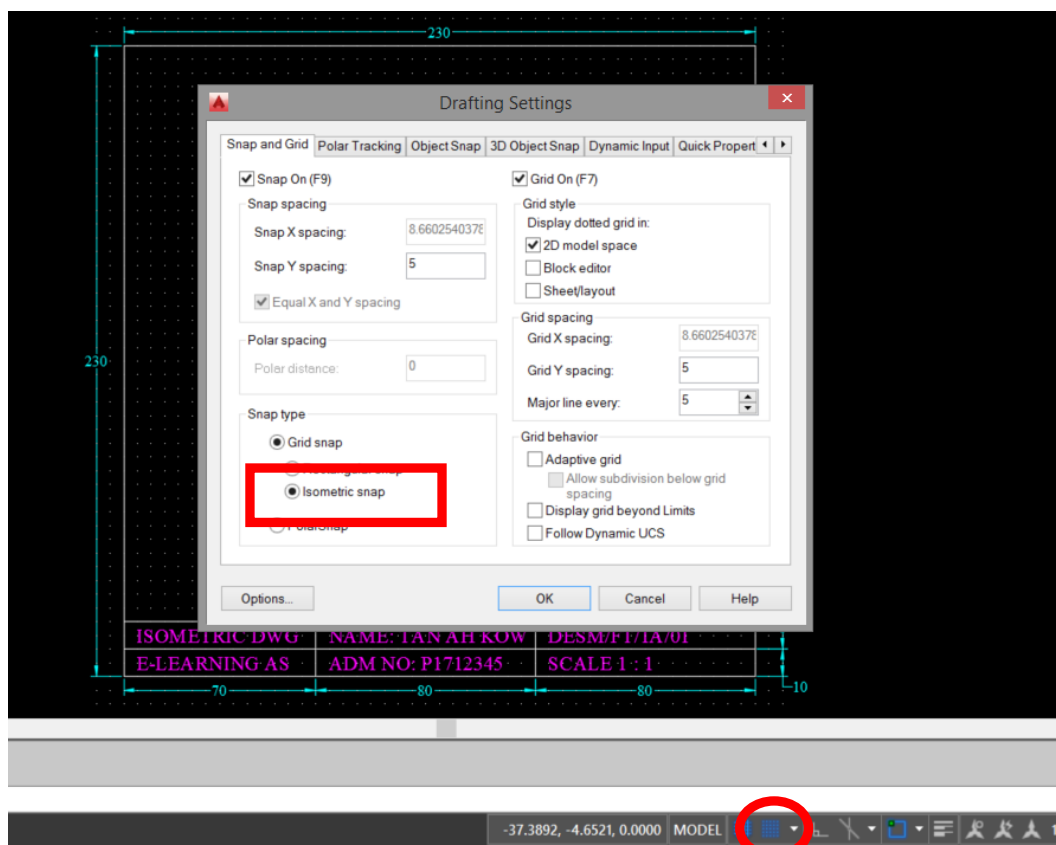

FIG 3
6. Change the drawing setting to isometric snap as shown below to change to isometric drawing space (FIG 3):